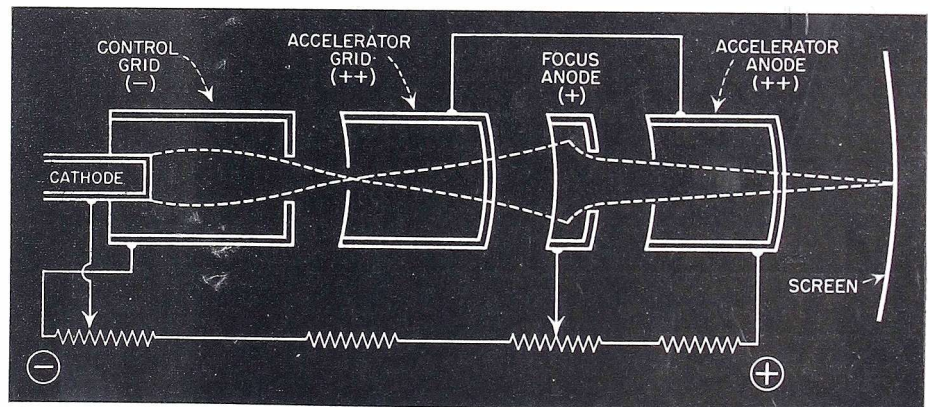

Fig. 1—CRT Electron Gun Assembly
3. (p 5) Note Fig. 1. Practically all television receivers list on the front a knob, called, *Brilliance, Brightness, or Intensity Control*. This controls the brilliance of the image appearing on screen. Although several functions in the receiver can affect this phenomenon, exactly which element in the C-R tube is directly indicated by the Brilliance Control:
electron stream. (See Fig. 1) It has another single significant function: